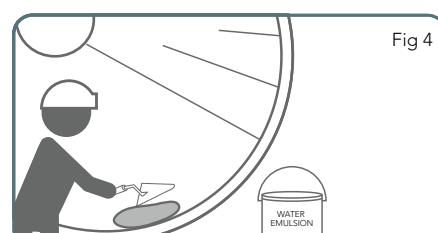

Fig 4
- Check that there are no gaps between the fresh mortar and the original material. (See fig 4)